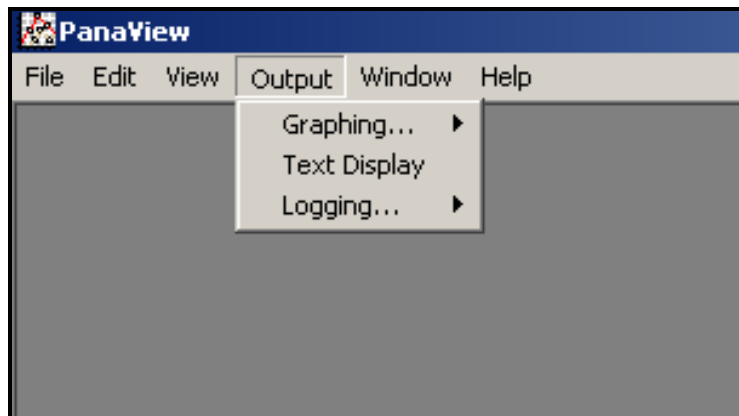

Figure 2: The Output Menu
To access PanaView's data handling options, pull down the *Output* menu, as shown in Figure 2.
2. Pull down the *Output* menu and click on the *Text Display* option (see Figure 2 on page 44).
2. Pull down the *Output* menu and click on the *Graphing - New* option (see Figure 2 on page 44).